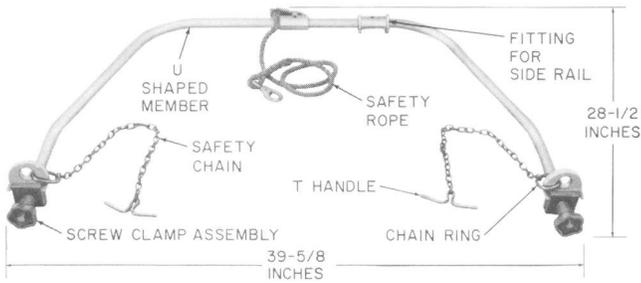

Fig. 5—E Ladder Support
8.05 The E ladder support (Fig. 5) consists of two screw clamp assemblies grooved to fit the strand and permanently attached to a U-shaped member made of aluminum alloy pipe. The clamps are equipped with chains for encircling the cable and strand as an added safety measure. The U-shaped member is for rigidly supporting the ladder away from the strand. A rope, attached to the center of the member, is tied to a rung of the ladder as a safety measure while placing the ladder in the support. The U-shaped member is also equipped with a fitting to receive one side